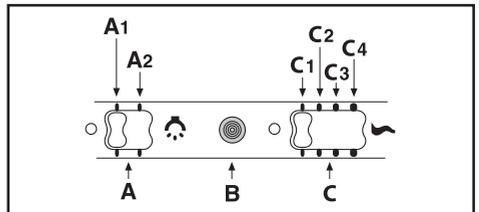

Fig.10
• **Commands slider (Fig.10)** the key symbols are explained below: